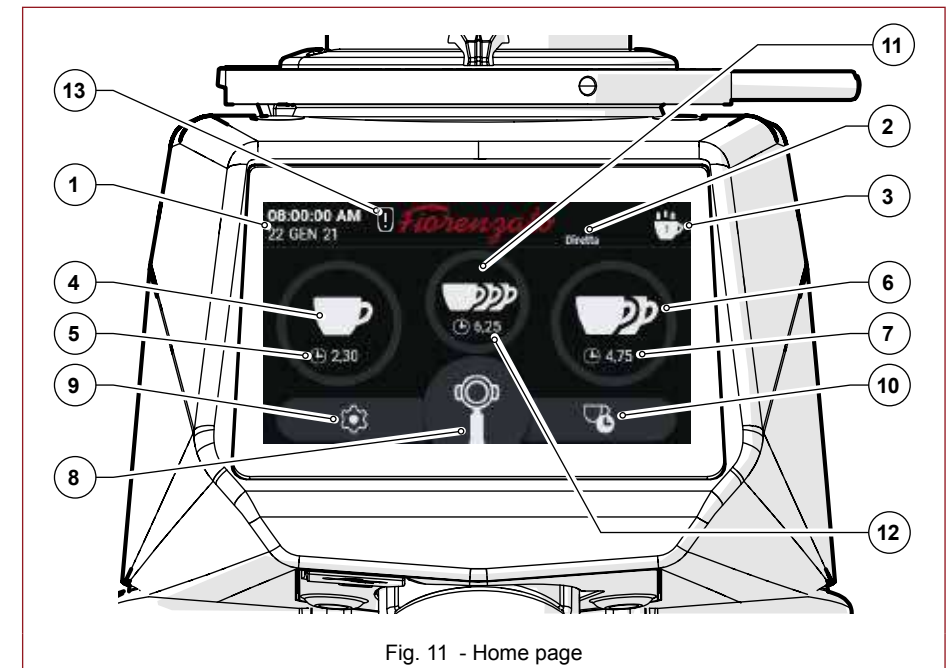

Fig. 11 - Home page
Fig. 11 shows the HOME page with a description of the function buttons and display fields. The HOME page can be customised from the 'Settings menu', therefore the image shown in the figure below may differ from the screen actually displayed on your appliance when it is first switched on.
With reference to Fig. 11, the display fields and function buttons on the HOME page are:
The Settings menu is accessed by pressing the function button , always visible in the bottom left-hand corner of the display (see Fig. 11 Part. 9). Once the command has been given, the display will load the menu, allowing you to select the parameter to be changed and/or the function to be activated/deactivated by simply scrolling down the list of possible options until you find the option you require. The Settings menu contains the following items:
Select the dose required (single, double or triple dose, if enabled) by pressing the relevant function button (see Fig. 11 Part. 4, 6 or 11). The icon of the pressed button starts flashing to indicate that the selection has been made.
Press and hold the '**Manual Grinding**' button (see Fig. 11 Part. 8) to start continuous grinding. The grinding process stops automatically when the button is released.
Press the function button for a single, double or triple dose (see Fig. 11 Part. 4, 6 or 11); after the command has been given, the grinding of the required dose is started immediately.
In this operating mode, the activation microswitch is disabled and all the dose selection buttons (see Fig. 11 Part. 4, 6, 8 and 11) can be activated.
In this operating mode, manual grinding (see Fig. 11 Part. 8) and the single, double and triple dose selection buttons (see Fig. 11 Part. 4, 6 and 11) are disabled.
Select the required dose (single, double or triple, if enabled) by pressing the relevant function button (see Fig. 11 Part. 4, 6 or 11). When the selection has been made, the icon of the pressed button starts to flash to indicate that the selection has been made and remains activated until a different dose is selected. Press the activation microswitch with the filter holder cup (once) to start grinding the selected dose.
In this operating mode, manual grinding also (see Fig. 11 Part. 8) remains enabled.
- At the end of each dispensing process, the statistics counters are updated (see Fig. 11 Part. 3). In the statistics, the continuing grinding process (see Fig. 11 Part. 8) corresponds to an increase of one single unit in the number of dispensing processes. The grinding cycles are stored in the memory even if the 'Show statistics' option is disabled in the Technical Settings menu.
When manual grinding (Fig. 11 Part. 8) is disabled, the relevant function button cannot be selected and is displayed in grey.
It enables (☑️) or disables (☒️) the 'Statistics' function button display on the HOME screen (see Fig. 11 Part. 3).